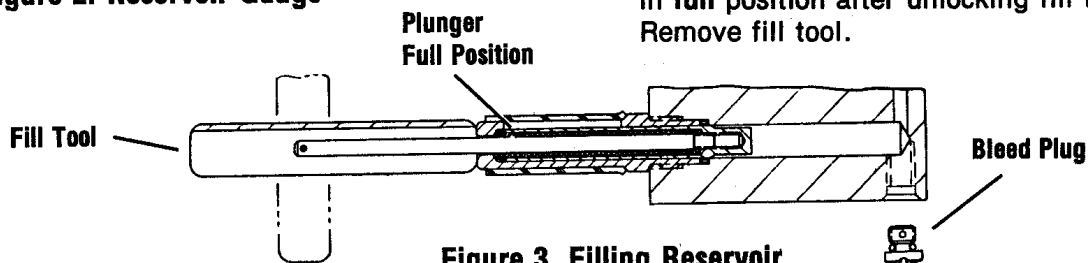

Figure 3. Filling Reservoir
1. Unscrew Bleed Plug. Figure 3. Fluid will drain out of reservoir.
2. Screw Fill Tool, P/N 112465, into plunger—see Figure 3. Pull plunger into housing, and lock into **full position** by tilting handle.